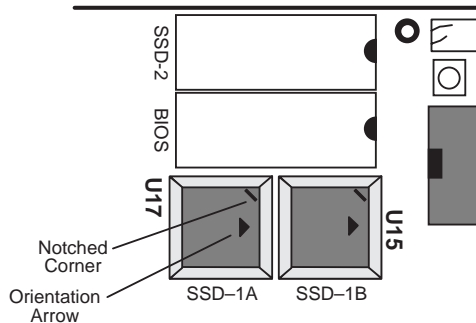

Figure 3-1 6012 PLCC Orientation
1. Install the first 256K flash directly into SSD1A and the second flash (if applicable) into SSD1B making sure to align the notched corner of the flash with the notched corner of the socket (see Figure 3-1).